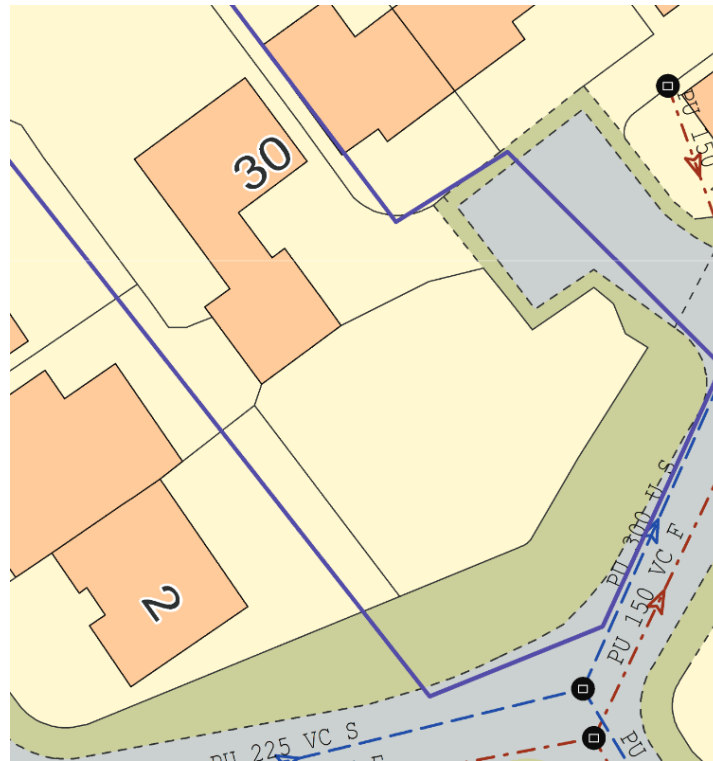

Fig 4.1 – Yorkshire Water Sewer Map Extract
- 4.2 Yorkshire Water asset plans show that there is an existing 300mm diameter surface water sewer in Longacre Lane to the east of the site as shown in Fig 4.1 below. The topographical survey has also picked up 2 No manhole covers in the access road for plot 30. One of these chambers is assumed to be a private surface water sewer serving plot 30 that connects into the public surface water sewer in Longacre Lane.
- 5.1 Yorkshire Water asset plans show that there is an existing 150mm diameter foul water sewer in Longacre Lane to the east of the site as shown in Fig 4.1. The topographical survey has also picked up 2No manhole covers in the access road for plot 30. One of these chambers is assumed to be a private foul water sewer serving plot 30 that connects into the public foul water sewer in Longacre Lane.